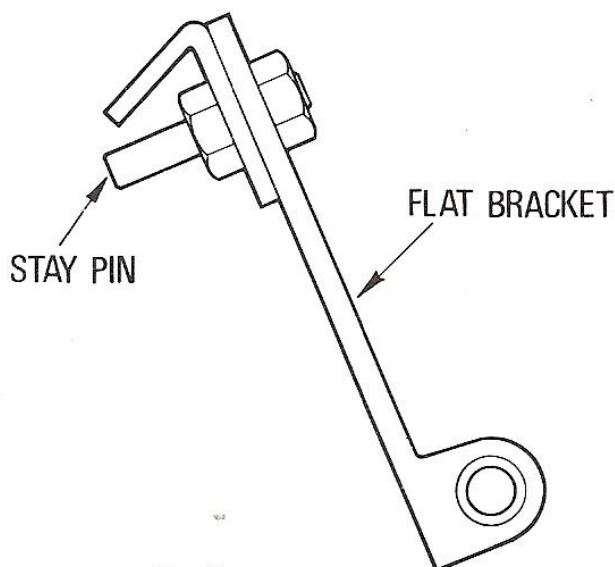

Fig. 3
2. Fasten the angle bracket to flat bracket with the stay pins and nuts using holes B and D in the flat bracket. **See Fig 3**.